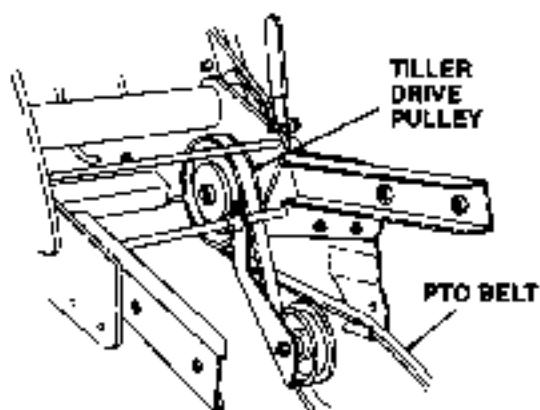
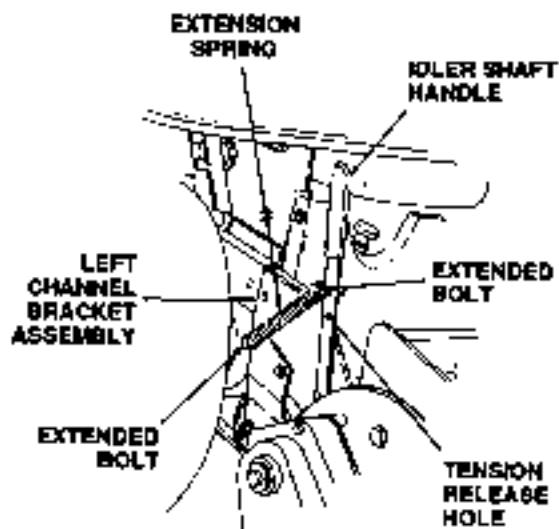

Figure 7-57. Routing the PTO Belt.
Figure 7-63. Installing Extension Spring.
- Route the PTO belt around the tiller drive pulley as shown in Figure 7-57. Make certain the V-side of the belt fully engages the pulley groove
5. Plug the rear connector of the tiller wire harness (4) firmly into the lift cylinder (3) electric motor connector.
6. Hook one end of the extension spring (12) onto the extended bolt of the left channel bracket. Push the idler shaft handle forward and extend the spring to hook the other end of the spring onto the extended bolt of the idler shaft handle. See Figure 7-63.
- b. Pull the idler shaft handle rearward until its tension release hole (located below the extension spring, see Fig. 7-63), is positioned behind the rear edge of the left channel bracket.
- a. Pull the idler shaft handle rearward until its tension release hole (located below the extension spring, see Fig. 7-63), is positioned behind the rear edge of the left channel bracket.
- f. Remove the fasteners securing the belt guard plate and flat idler pulley to the idler bracket (9) and remove the belt.
- g. Place the back side (flat side) of the new belt against the flat idler pulley and reinstall the belt, flat idler pulley and belt guard plate onto the idler bracket (9).
- h. Route the belt around the tiller drive pulley as shown in Figure 7-57. Make certain the V-side of the belt fully engages the pulley groove.